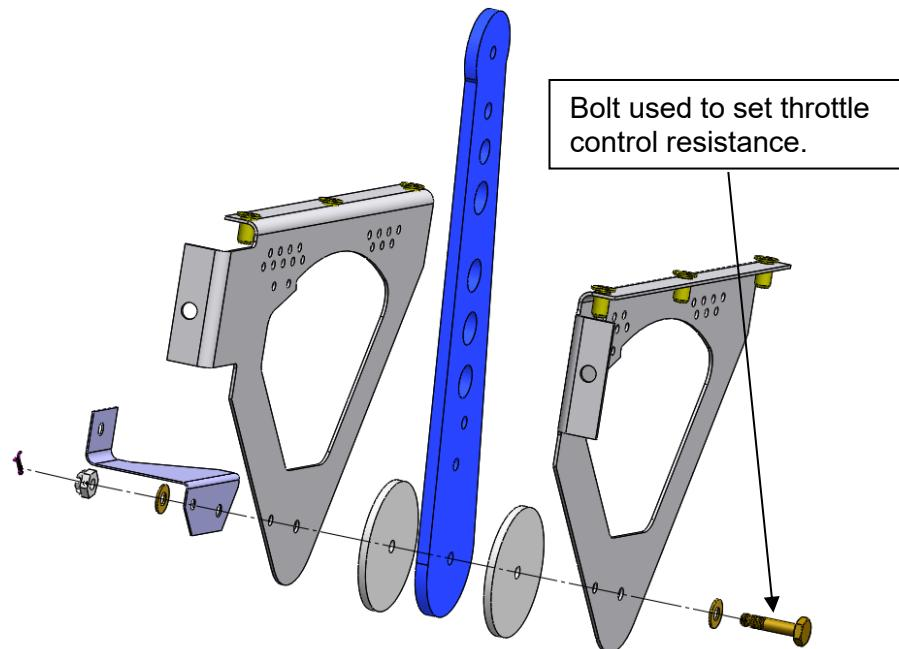

Figure 34
Step 6: Pull the throttle to idle and confirm that the throttle control is smooth, has a suitable feel and that the lever does not creep forward under the tension of the spring on the engine side. If the control creeps forward tighten the bolt referred to in Figure 34. Once the friction is suitable to avoid the control from creeping forward, insert the split pin as seen in Figure 34.